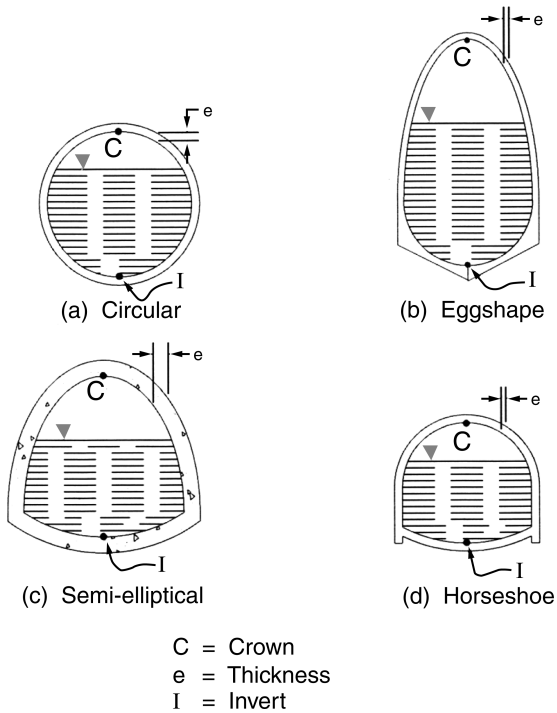

FIGURE S-3 Sewer sections.
**Sewer crown** The inside top of the arch of a sewer. *See* Figure S-3.
**Sewer invert** The lowest point of the internal surface of a sewer. *See* Figure S-3.